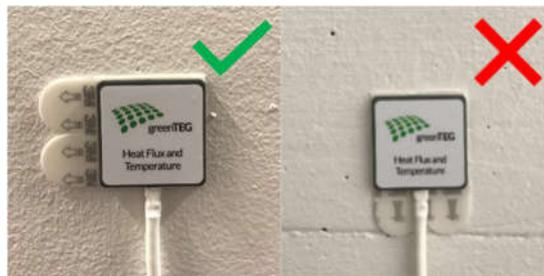

Figure 3: How to mount the the sensor correctly (left) and incorrectly (right).
- a. Mount the XO-Temp with the appropriate thermally conductive double-sided adhesive tape (sold separately). Note that the sensor side of the tape is colored red, while the contact surface side is colored black. Important: Ensure that the removal tabs of the adhesive tapes point towards the sides (left or right) of the sensor as seen in Fig. 3 (left). Do not attach the adhesive tapes in the same direction as the cable of the sensor as shown in Fig. 3 (right).